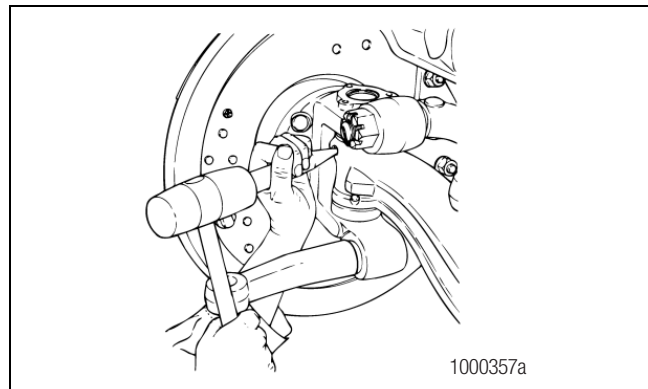

Figure 6.18
15. Seat the top draw key into the front of the beam. Refer to Table F. Seat the bottom draw key into the back of the beam by striking it with a hammer and drift. The keys must align with the slots of the king pin. Do not install or tighten the locknuts before checking the knuckle end play. Figure 6.18.